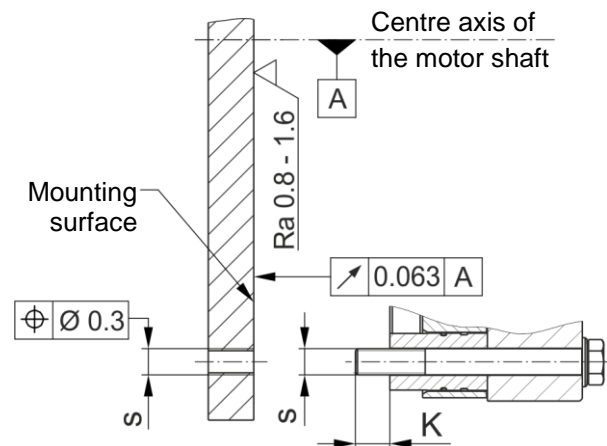

Fig. 7
- ❑ The mounting dimensions and the tapped holes s with depth $K + 2$ mm (K = screw projection) according to the applicable assembly drawing must be given (Fig. 7).
- ❑ The O-ring (9) must be lightly greased.
- ❑ The toothings of the motor shaft and the rotor (3) must not be oiled or greased.